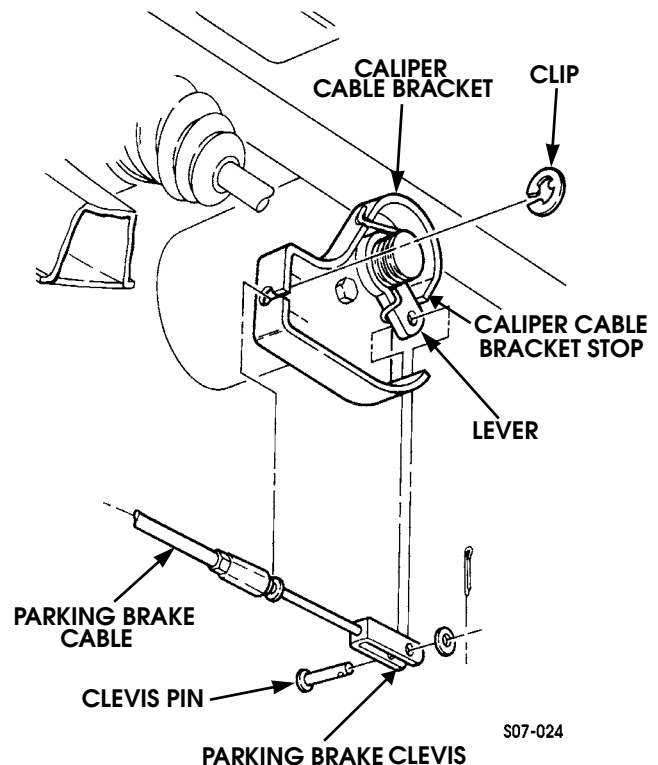

Figure 7-29: Rear Dual Brake Caliper Cable
5. Install parking brake cable to caliper cable bracket and secure with clip (Figure 7-29).
2. Remove cotter pin, washer, and clevis pin securing parking brake clevis to lever. Discard cotter pin (Figure 7-29).